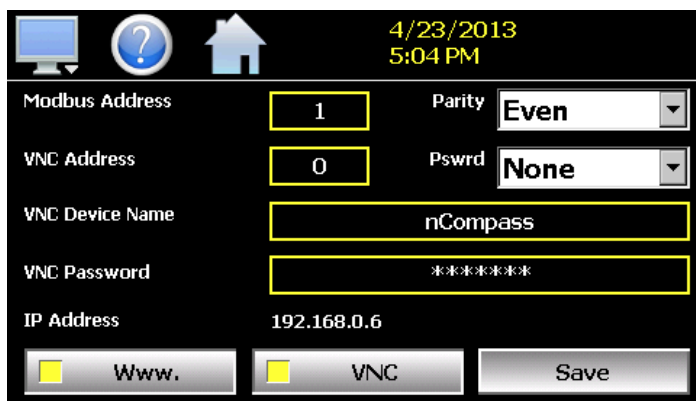

Fig. 129: COMMS Screen
2. To access the COMMS setup menu, select HOME - MONITOR - SETTINGS - MONITOR - COMMS icons (Fig. 129).